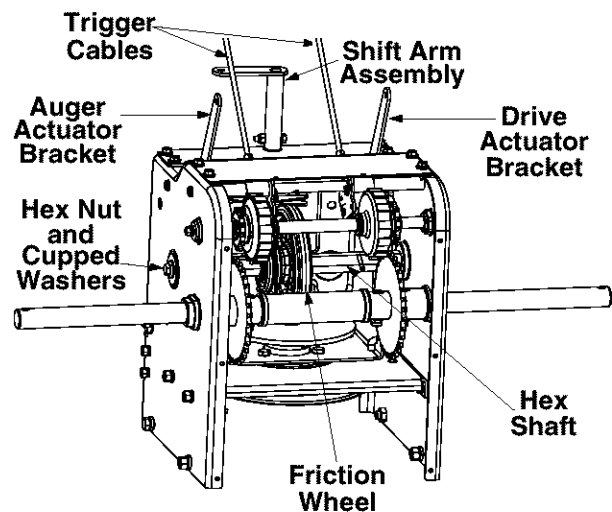

Figure 15 Viewed from the underside of snow thrower
Oil or spray lubricant into bearings at wheels at least once a season. Remove wheels, clean and coat axles with a multi-purpose automotive grease. See Figure 15.
Lubricate the hex shaft with a good all-weather multi-purpose light grease at least once a season or after every 25 hours of operation (available from an authorized service dealer or an automotive store.) See Figure 15.
5. Using a 7/8" wrench hold the hex shaft and remove the hex bolts and cupped washer and bearing from left side of the frame. See Figure 15. Hold the friction wheel assembly, and slide the hex shaft out of the unit toward the right hand side.